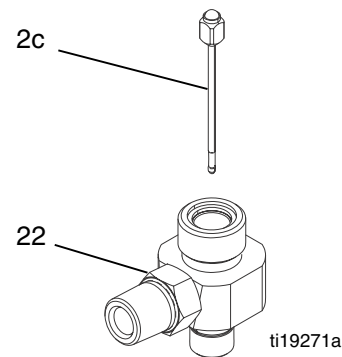

FIG. 12
- Lightly grease the small end of the needle (2c) then guide it into the large end of the fluid housing (22). See FIG. 12.